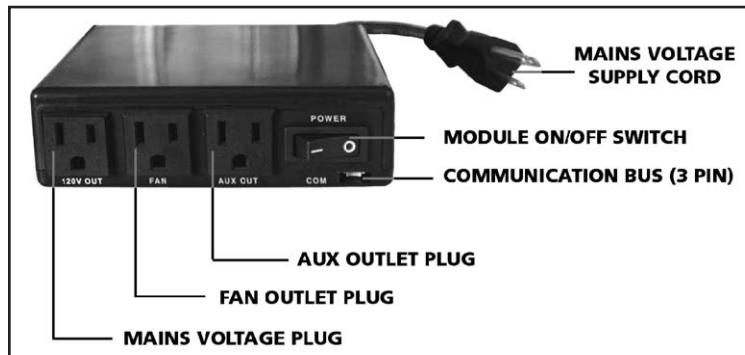

Figure 110: Proflame Fan Control Module.
Fan Control Module (FCM) offers the added ability to control the fan speed through six (6) speeds, a remotely actuated 120V outlet and a constantly powered 120V outlet. The FCM provides DC power to the Receiver allowing the batteries to be used only when line power is interrupted or lost (see Figure 110).